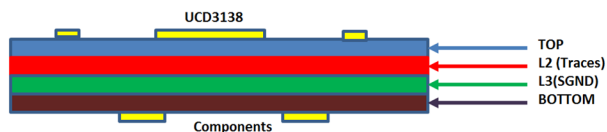

Figure 4-1. Optional Ground Layer Assignment
- Use one whole layer (L3) for SGND plane as shown in Figure 4-1. Use many vias (such as 9 vias) to connect the extended power pad to the internal SGND plane layer. It is preferred to have the vias close to AGND pins and DGND pins of the device. For the 80-pin device, TI still recommends a ground plane under the device even though there is no power pad on the device.